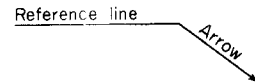

Fig. 3.152
- (2) an arrow and reference line (see Fig. 3.152).
The weld symbols indicate the type of weld required (i.e. fillet, butt, etc.). Apart from stating the type of weld required it is also necessary to indicate the *position* of the weld. This is done by means of an arrow and a reference line (Fig. 3.152).